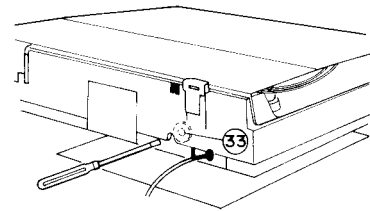

Figure 6
- (1) If the tonearm is above or on the turntable platter, turn the pulley "33" counterclockwise through the hole as shown in Figure 6 with a slotted-head screwdriver (width 2.5 ~ 4 mm) until tonearm moves to its rest position. Remove the turntable platter.
Move the tonearm to the position where the cover "10" was mounted, turning the pulley "33" clockwise as shown in Figure 6.
If the tonearm does not move by turning the Pulley "33" (Figure 6), an additional force by finger should be added to the bended part of tonearm in the desired direction.